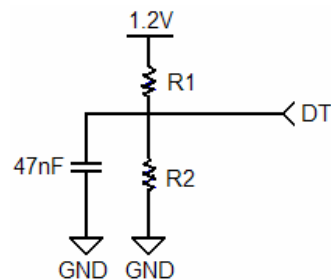
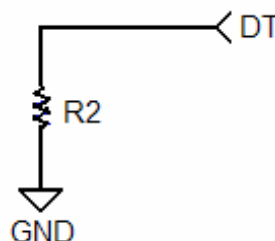

FIGURE 32A.
FIGURE 32B.
The QLx4600-SL30 is capable of maintaining periods of line silence on any of its four channels by monitoring each channel for loss of signal (LOS) conditions and subsequently muting the outputs of a respective channel when such a condition is detected. A reference current applied to the detection threshold (DT) pin is used to set the LOS threshold of the internal signal detection circuitry. Current control on the DT pin is done via one or two external resistors. Nominally, both a pull-up and pull-down resistor are tied to the DT pin (Figure 32A), but if adequate control of the supply voltage is maintained to within $\pm 3\%$ of 1.2V, then a simple pull-down resistor is adequate (as in Figure 32B). Resistors used should be at least 1/16W, with $\pm 1\%$ precision.
The internal bias point of the DT pin, nominally 1.05V, is used in conjunction with the voltage divider (R1 and R2) shown in Figure 32A to set the reference current on the DT pin.
For channels exhibiting more than 25dB of total loss (this includes cable or FR-4 loss) the DT pin should be configured for a reference sink current (coming out of the DT pin) of approximately 2 μ A. A typical configuration for a 2 μ A sink current is given in Figure 32C. If the configuration in Figure 32B is utilized, a 525k Ω resistor would be used.